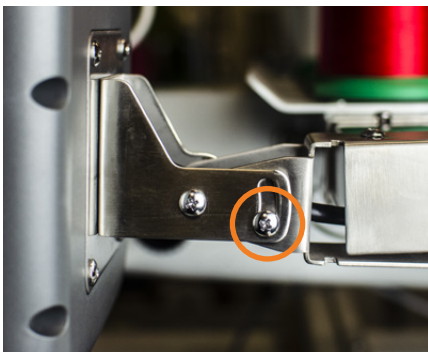

Figure 12
1. To move the panel up or down, loosen the screw located on the side of the panel arm. **See Figure 12.**